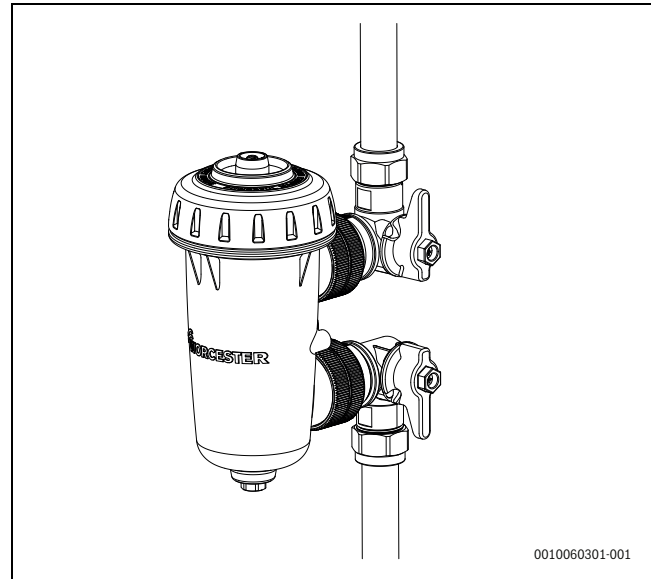

Fig. 41 Orientation of the Greenstar system filter (22mm) within the appliance
- F Filter can be installed - From floor to top of filter 400mm ± 25mm (for filter orientation see figure 41)¹⁾